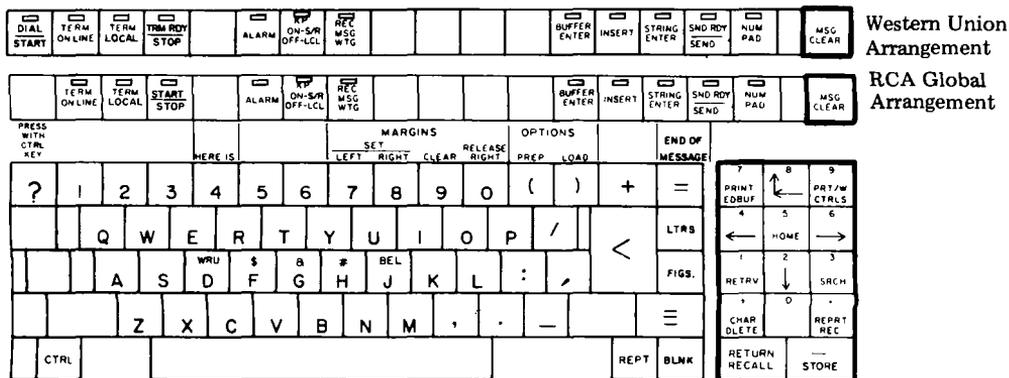

Fig. 17—Keyboard Layout (Pedestal Based)
4. KEYTOP AND KEYSWITCH IDENTIFICATION (Fig. 17, 18, 19 and 20)
4. KEYTOP AND KEYSWITCH IDENTIFICATION (Fig. 17, 18, 19 and 20) (Contd)